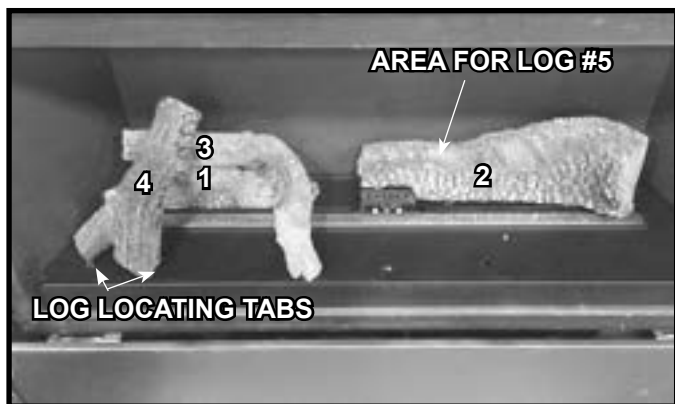
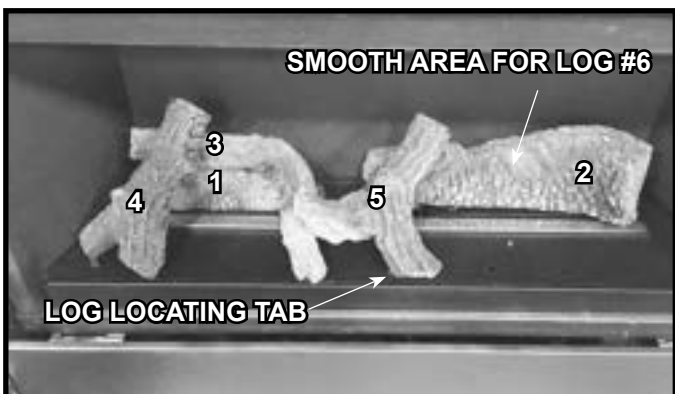

Figure 7 Place Log #4
Figure 8 Place Log #5
- Install Log #4 by placing the forked end down onto the base pan and leaning the top end of Log #4 back so that it is resting on Log #3. The forked end should contact two placement tabs. See Figure 7.
- Install Log #5 by placing the forked end down as shown in Figure 8. One side of the fork will rest on Log #3 and the other side of the fork will touch the designated log placement tab. The other end of the log rests on the smooth area on Log #2 noted in Figure 7. See Figure 8.
- Install Log #6 by placing the right end of the log against the right log tab. The left end of the the log will contact the back side of the tab. Log will lay on smooth area of Log #2. See Figure 8.